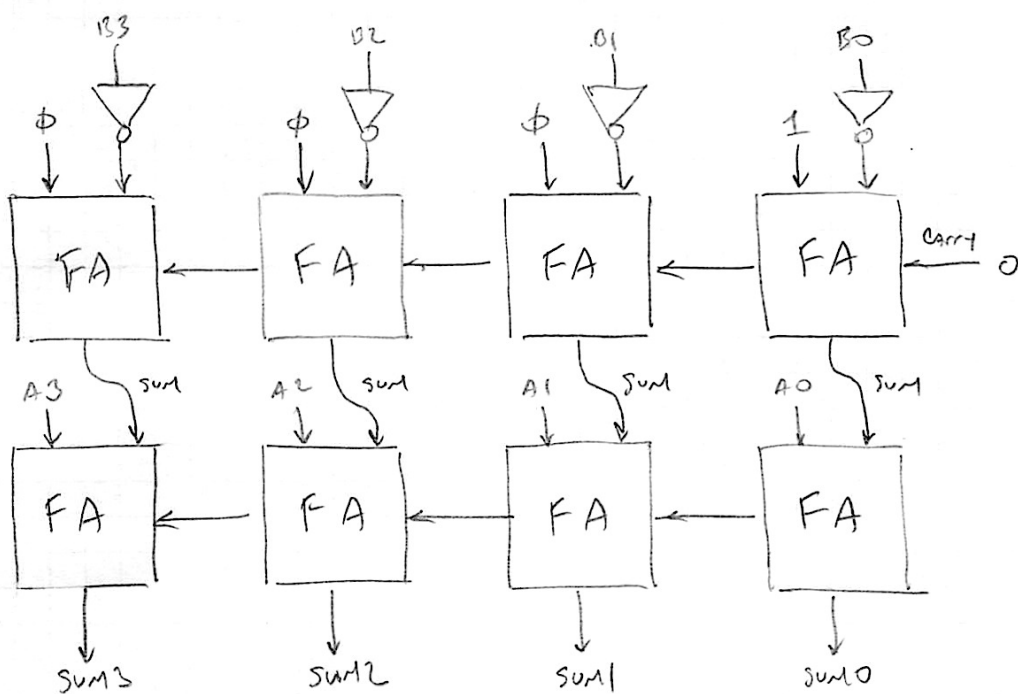

Figure 13: Four-Bit Ripple-Carry Subtractor (FA = full-adder)
- **Subtraction Unit** – We can use your ripple-carry adder to subtract two binary numbers. To calculate $A - B$, we need to modify B before using the ripple-carry adder. We first *invert* every bit in B (i.e., every one becomes a zero and every zero becomes a one). Then we need to add one to the inverted version of B . If we add the result to A , it will have the same effect as subtracting B from A . In other words, using binary arithmetic $A - B = A + !B + 1$, where $!B$ means invert every bit. Figure 13 illustrates how to implement a subtractor. You can implement the subtractor either by working out the inversion and increment by one on paper and then using the ripple-carry adder from Part 3. For the truly ambitious, you could implement a two-bit subtractor by working with three other groups. Combine each groups' breadboard implementation of the full-adder module along with an inverter implemented using NMOS/PMOS transistors to create the entire hardware module.